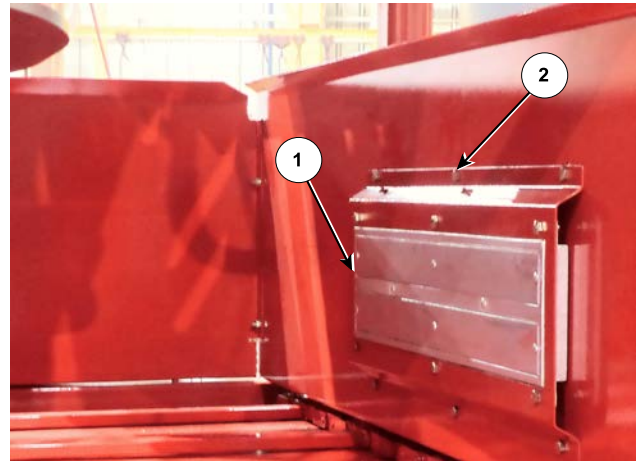

Figure 3: Mount the Bracket (with Magnet) to the Inside Front Wall of the Conveyor
2. Mount the bracket (with magnet) onto the inside front wall of the conveyor, see *Figure 3*.
- Position the bracket so that the bent side (1) is towards the back of the conveyor.
- Use 6 of 5/16" x 3/4" hex bolts (2) and locknuts.